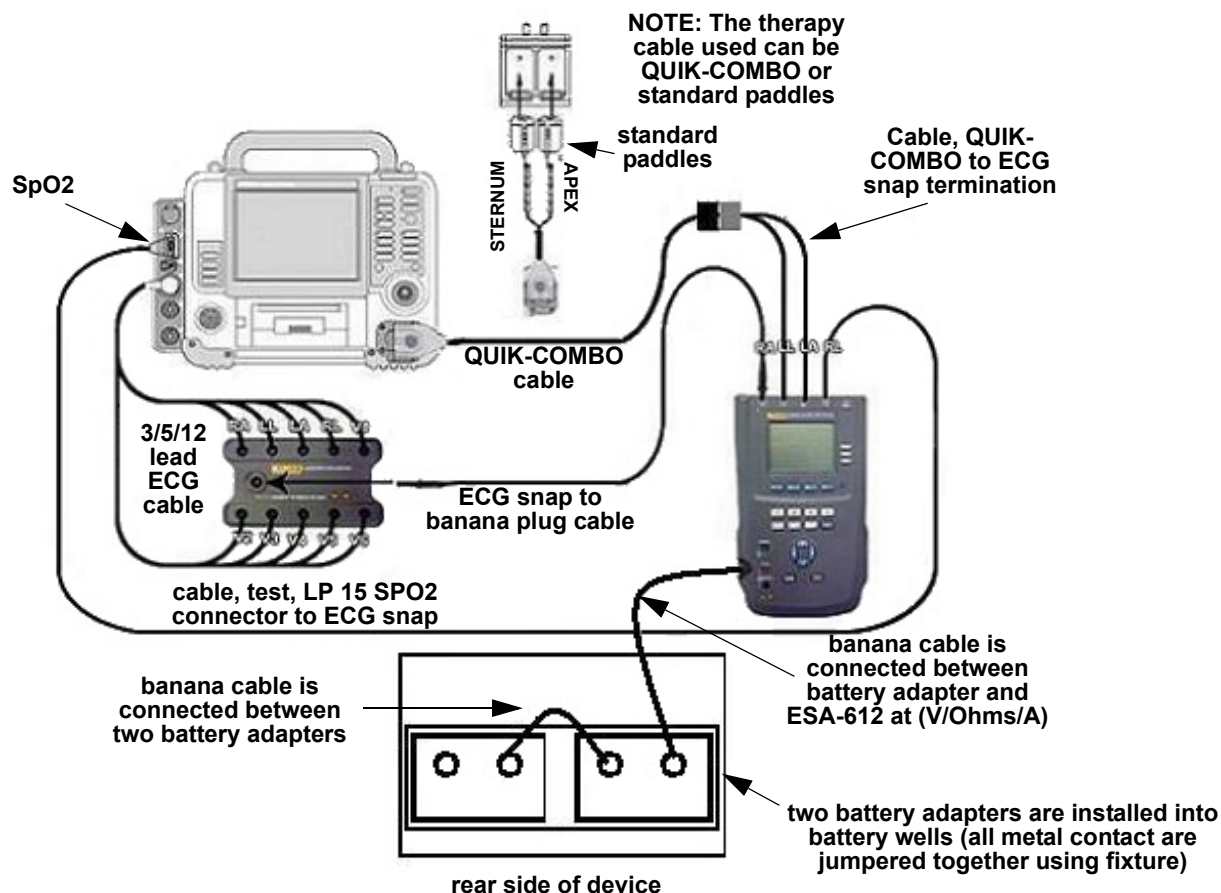

Figure 5.58—Leakage currents setup for battery powered
- ◆ To set up up leakage current test for battery powered (see Figure 5.58 on p. 179):